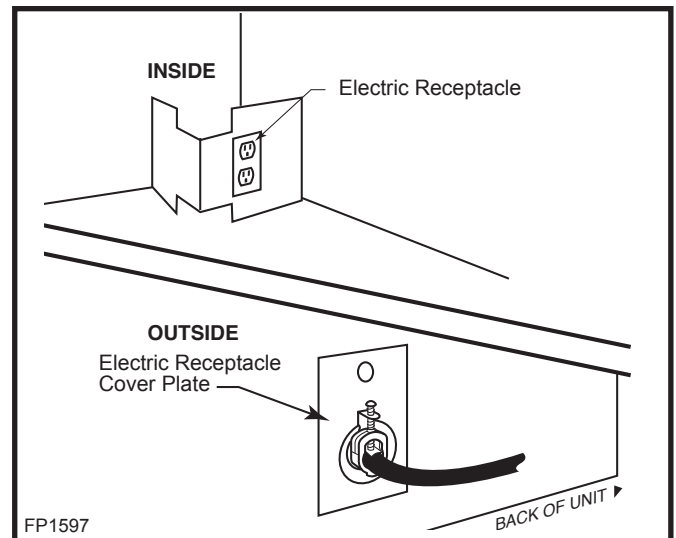

Fig. 7 Electric receptacle.
1. Unscrew the retaining screw holding the electric cover to the outside of the unit. (Fig. 7)